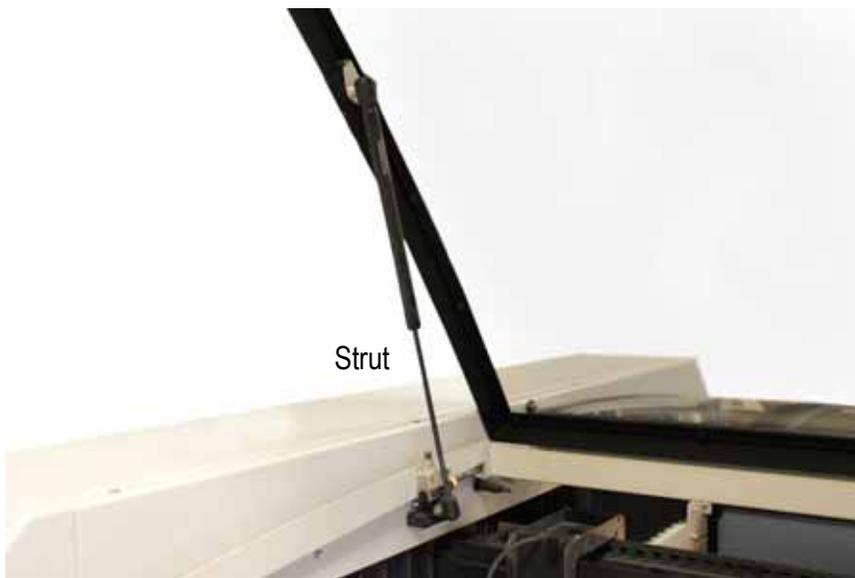

Figure 7-14. Top Cover Strut
2. Once opened, make sure that the covers stay open (see Figure 7-14). Failed struts will cause the covers to immediately close due to gravity.